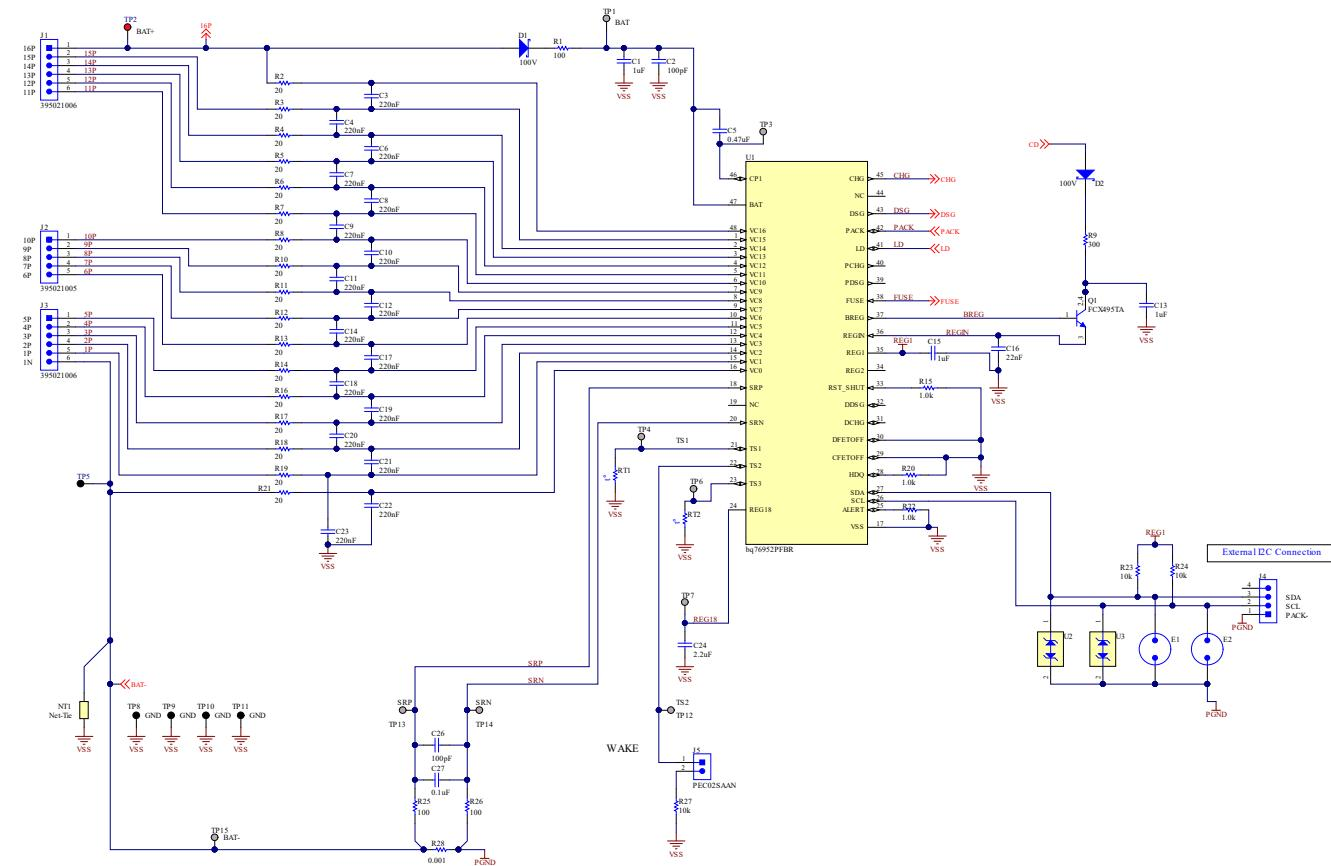

Figure 8-2. BQ76972 16-Series Cell Schematic Diagram—Monitor
- Power Dissipation, which can be a factor of the RDS(ON) rating of the FET, the FET package, and the PCB design.
- The overdrive level of the BQ76972 device charge pump should be selected based on RDS(ON) requirements for the protection FETs and their voltage handling requirements. If the FETs are selected with a maximum gate-to-source voltage of 15 V, then the 11 V overdrive mode within the BQ76972 device can be used. If the FETs are not specified to withstand this level, or there is a concern over gate leakage current on the FETs, the lower overdrive level of 5.5 V can be selected.
- A diode can optionally be included in the collector circuit of the BJT, in order to avoid reverse current flow from BREG through the base-collector junction of the BJT to PACK+ during a pack short circuit event. This diode can be seen in Figure 8-2 at D2.